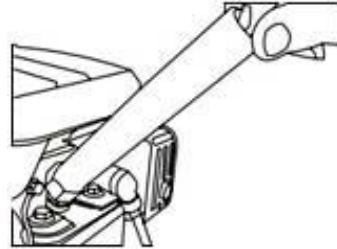

Fig.16
1. Remove the spark plug by means of spark plug wrench (Fig. 16).